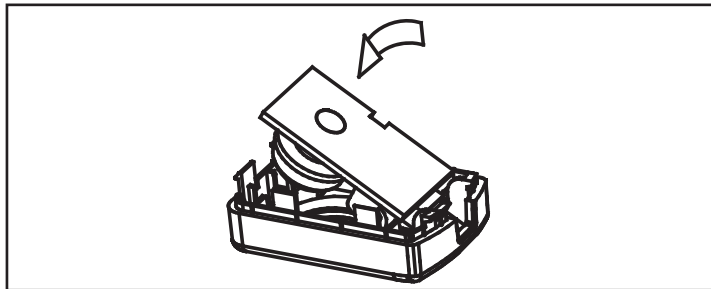

Figure 8. Place Occupancy Sensor Inside Cover
6. Press the occupancy sensor into the back cover. See Figure 8.